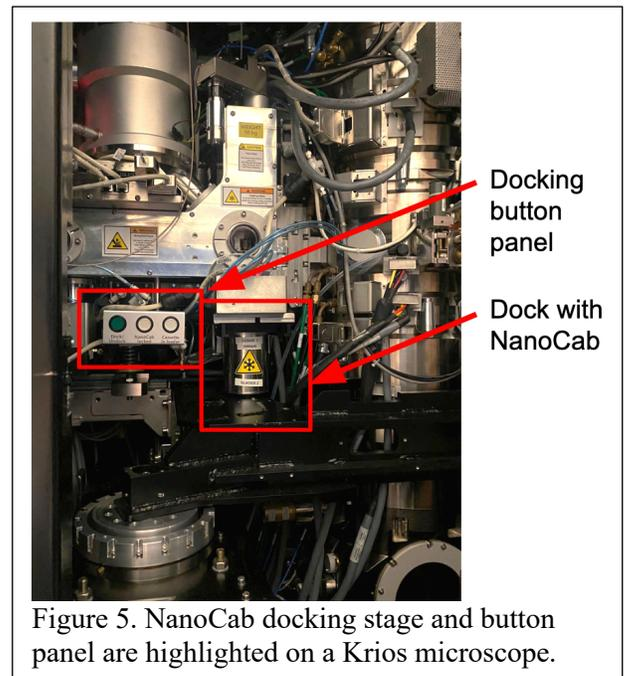

Figure 5. NanoCab docking stage and button panel are highlighted on a Krios microscope.
4.3.2. Open the enclosure door and locate the autoloader docking stage (fig 5).
- 4.8.2. Open the enclosure door and locate the autoloader docking stage (fig 5).